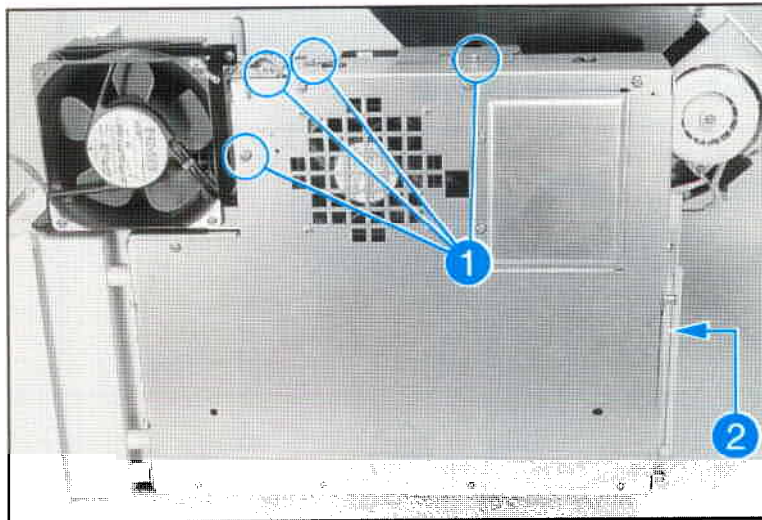

Figure 6-14      Formatter Cage Removal (5 screws)
2. Remove (4) screws shown in Figure 6-14, item 1.
3. Remove (1) screw from the sheet-metal tab at the rear of the printer (above and to the right of the parallel connector, Figure 6-14, item 2).